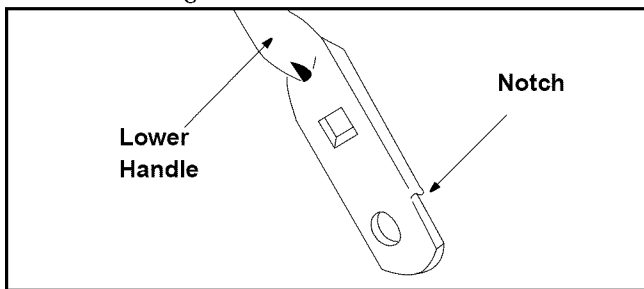

Figure 19
- Turn the lower handle around so the notch on the bottom of the lower handle is facing forward as shown in Figure 19 .